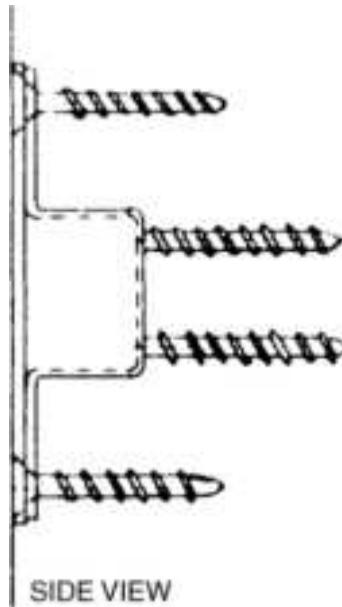

**Figure 13.51** Strike box into the door frame. (*M.A.G. Engineering and Mfg., Inc .*)
8. Insert the strike box. Place the finished strike plate over the strike plate box and secure it with screws provided (Fig. 13.51).